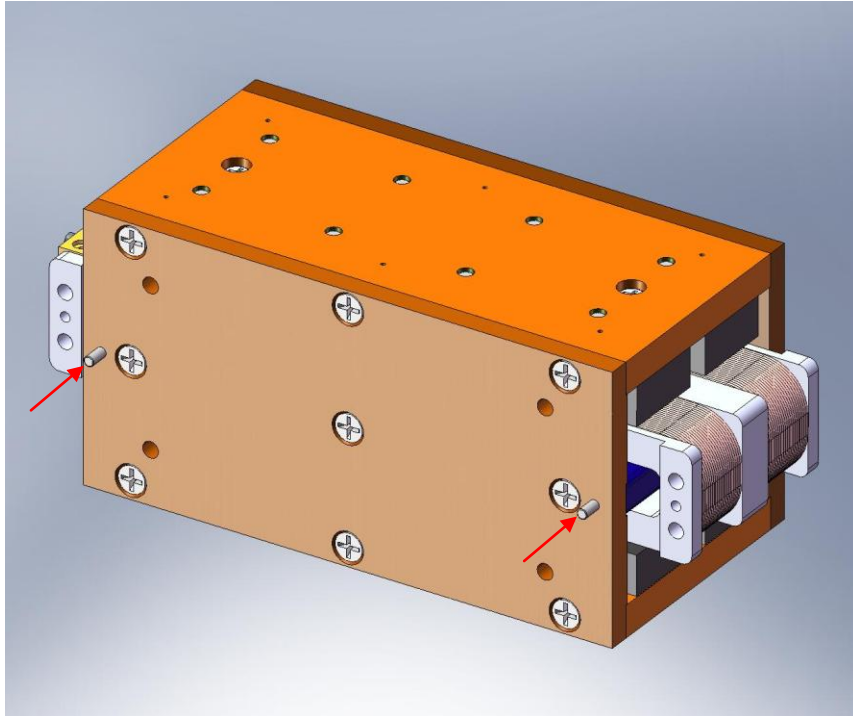

Figure 3.17. Press (2) pins into the Field Assembly.
- Press (2) 1/8”x.50” dowel pins into the PSI Actuator Field Assembly, as shown in Figure 3.17. These pins should stick out of the Field Assembly’s Bottom Plate by .025”.